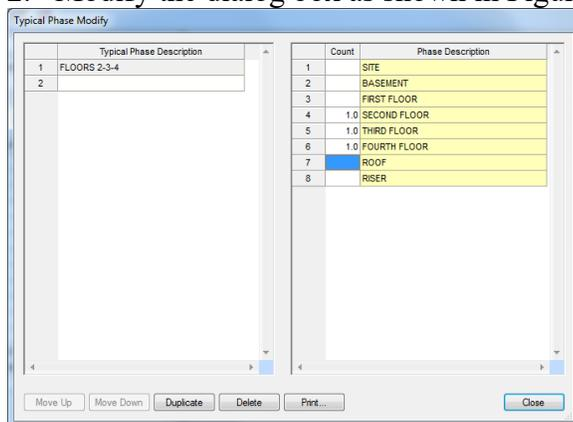

Figure 30
2. Modify the dialog box as shown in Figure 30 and click Close.